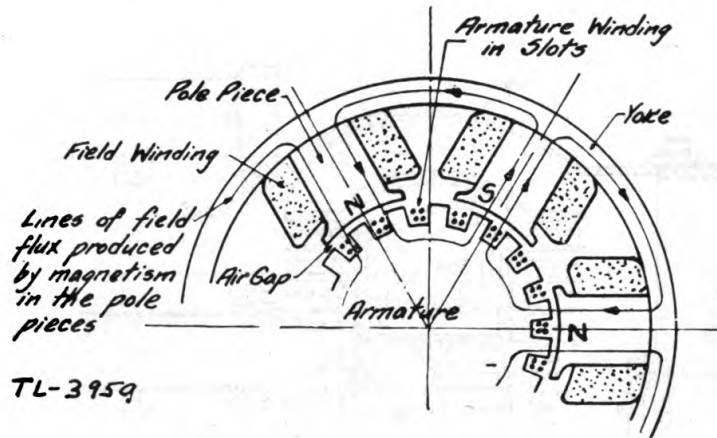

FIGURE 11.—Generator armature and field windings.
*h.* Figure 11 shows the principal parts of a generator and illustrates the function of the armature and field windings. The lines of field flux pass from a north pole through the air gap between the armature and field pole, through the armature, back through the air gap into a south pole, and through the yoke back to the starting point. As the armature rotates, the armature windings cut through these lines of flux, thereby generating a voltage in the armature windings.